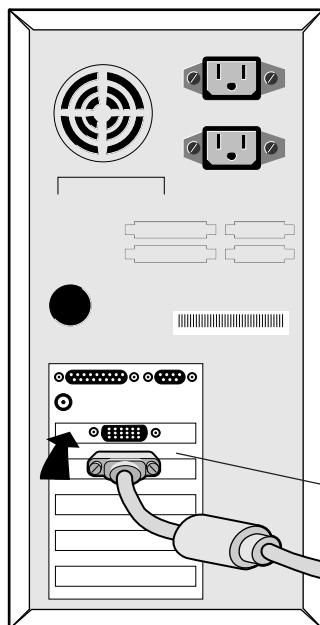
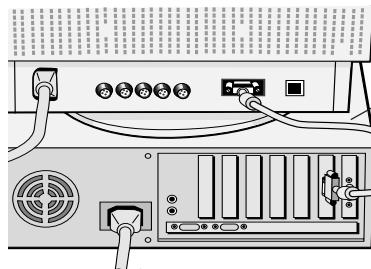

Figure A.1
Figure A.2
2. For the PC: Connect one end of the 15-pin mini D-SUB signal cable to the connector of the display card in your system (**Figure A.1**) and the other end to the back of the monitor (**Figure A.2**). Tighten all screws. Proceed to Step 4.